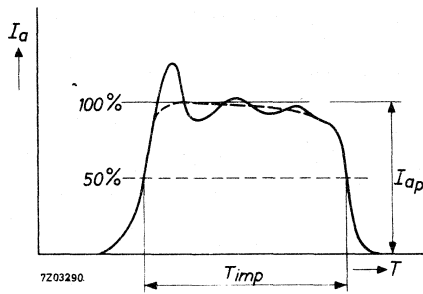

Fig. 1.
- $T_{imp}$  The pulse duration  $T_{imp}$  is defined as the time interval between the two points on the current pulse at which the current is 50% of the smooth peak current (see fig. 1).